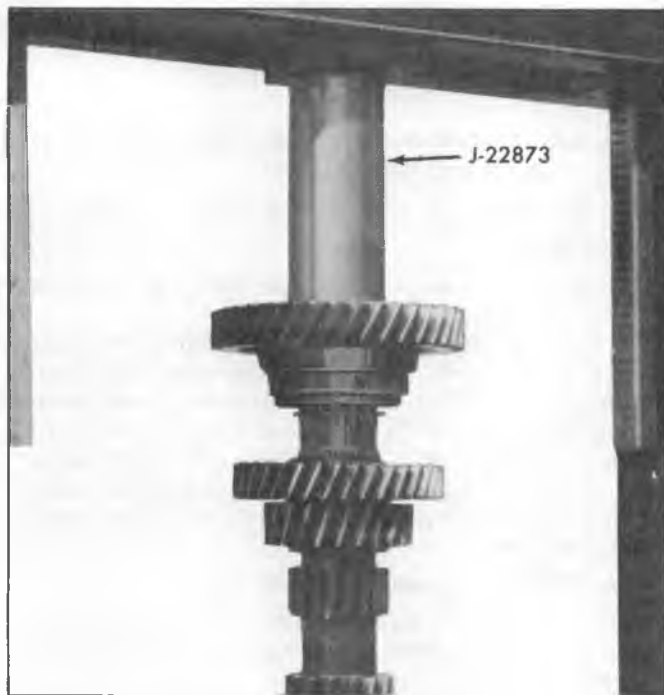

Fig. 22Q—Installing Clutch Countergear
4. Position clutch countergear and spacer on shaft and press countergear onto shaft against snap ring using Tool J-22873, (fig. 22Q).